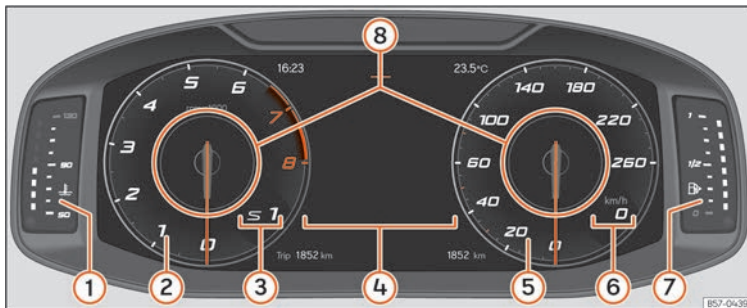

Fig. 61 SEAT Digital Cockpit on the instrument panel (classic view).
»» **Fig. 61 ⑧**.
» **Fig. 61.**